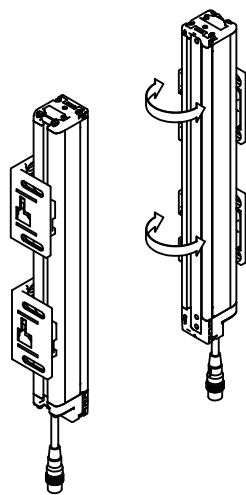
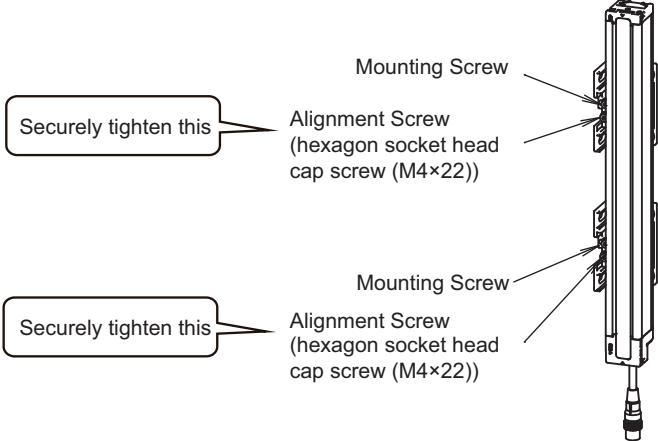

Fig. 4
Fig. 6
Move the emitter and receiver from side to side (Fig. 4) to align them to a center position where the Stable-state indicator (STB, green) of the receiver is illuminated while checking the state of the top and bottom beams with the Top-beam-state indicator (TOP, blue) and Bottom-beam-state indicator (BTM, blue) of the receiver. (Fig. 6)
5. Securely tighten the Alignment Screws to fix the Free-Location Bracket to the F3SG-RR housing. The recommended torque to tighten the Alignment Screws is 3.0 N•m. (Fig. 6)